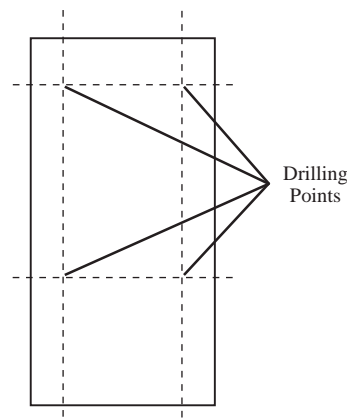

Figure 18 - Drawing the Intersecting Lines
5. Remove Template **B** and draw four lines that intersect the matching numbers (Figure 18). The intersections of these lines will be used to drill through the floor later.